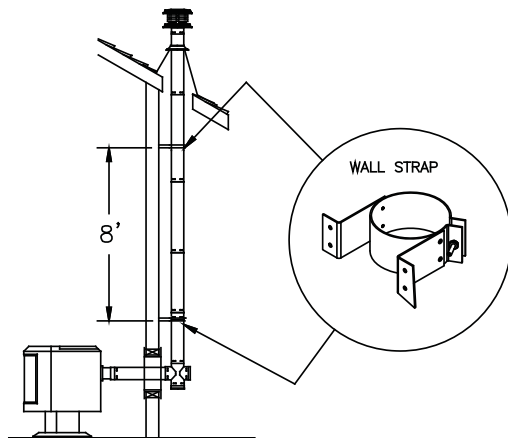
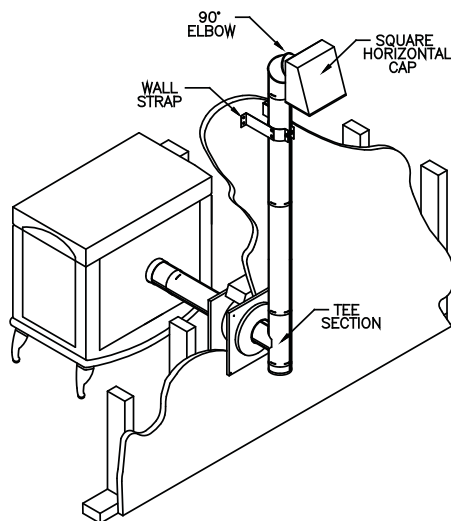

Figure 15
Figure 16
D. Attach Wall Strap just above the tee. Wall Straps must be placed every 8-feet along an exterior vertical run (**Figure 15**). If your exterior vertical run terminates horizontally before penetrating the roofline, install at least one Wall Strap on the Pipe Section before 90 Degree Elbow and Horizontal Cap (**Figure 16**). Under no circumstances can a Vertical Cap be installed adjacent to vertical wall. Secure Pellet offers fixed and Adjustable Wall Straps to maintain a 1"-3" clearance, as desired. If Assemble Pipe Sections in the same manner described in Step 2 of the general instructions.